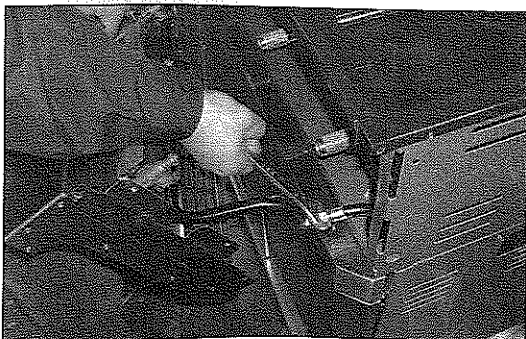

Fig 14
14. Pull the front face out a little, use a 3/4" wrench disconnect the regulator hose from the manifold. (See Fig. 14)